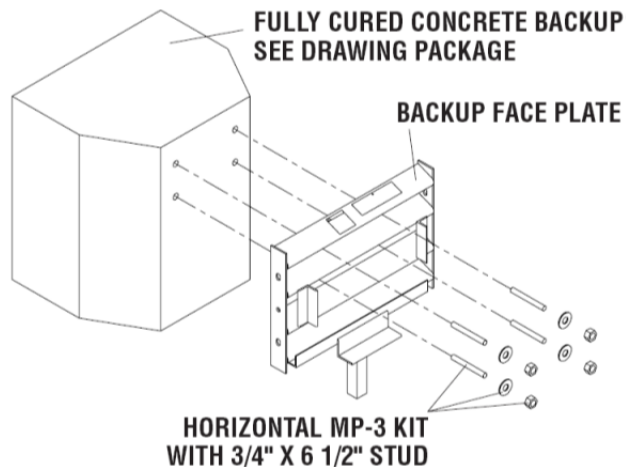

Figure 16
A) Concrete Backup Construction (Figure 16)